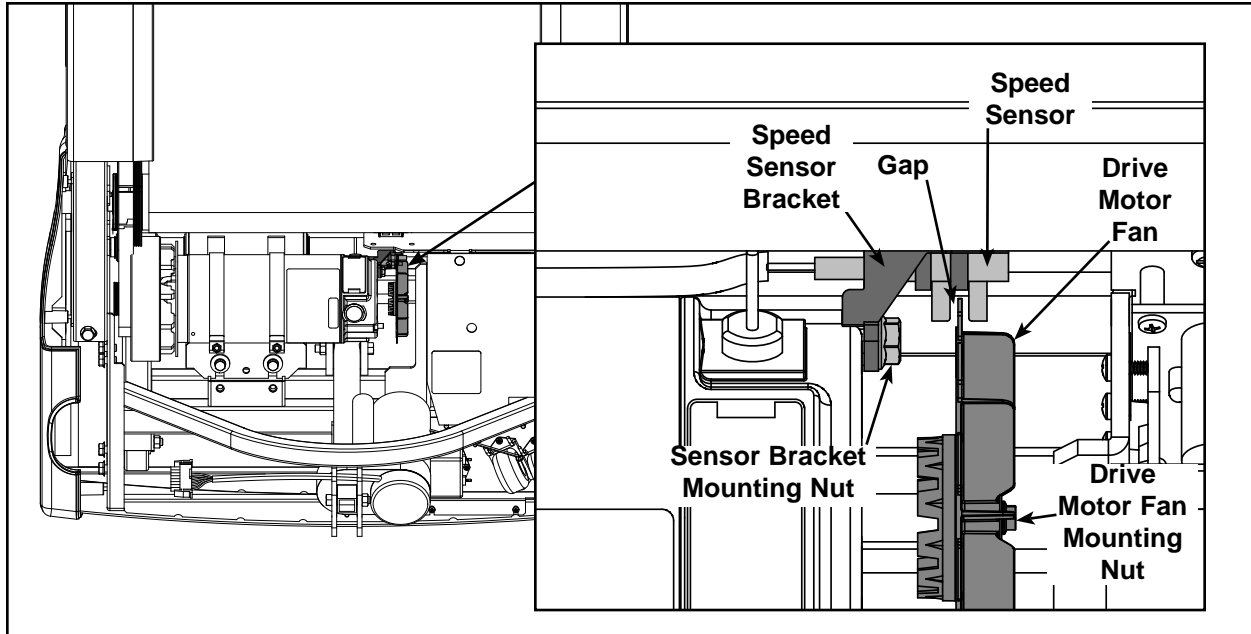

Figure 3
- A. Using a 1/4" Socket wrench, tighten the mounting screw that attaches the drive motor fan to the drive motor shaft. See Figure 3.
- B. Using a 7/16" Open end wrench, tighten the mounting nut that attaches the speed sensor bracket to the drive motor. See Figure 3.
- C. Ensure that the gap between the speed sensor and drive motor fan is even on both sides. See Figure 3.